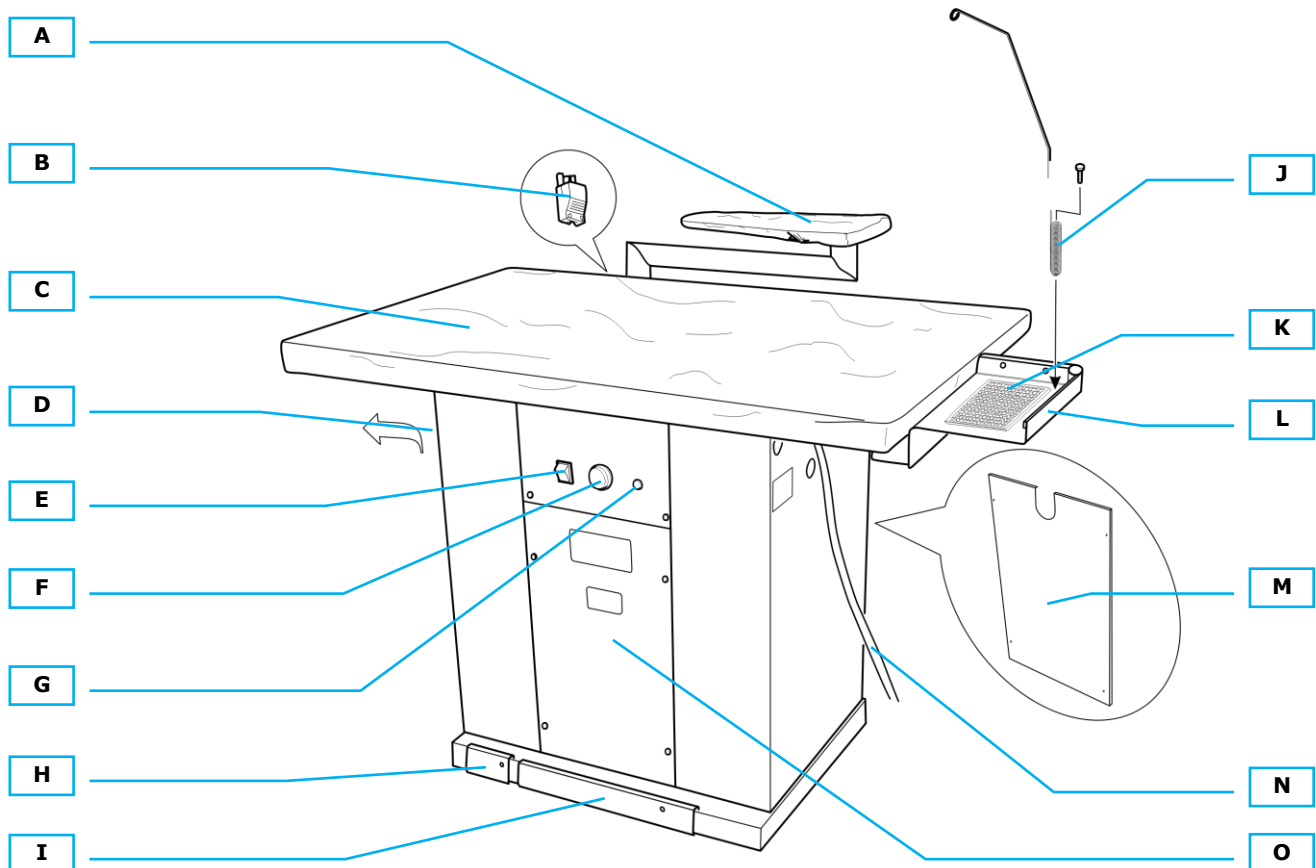

Fig. 1
2. For models equipped with ironing arm, insert the arm (fig. 1-A) and fix it by screwing the respective knobs. Insert the plug of the arm in the specific socket (fig. 1-B).
Turn on the main switch (fig. 1-E), set the thermostat knob on 80/90°C (fig. 1-F): when the board pilot lamp turns off (fig. 1-G) the table has reached the set temperature and is ready to iron.